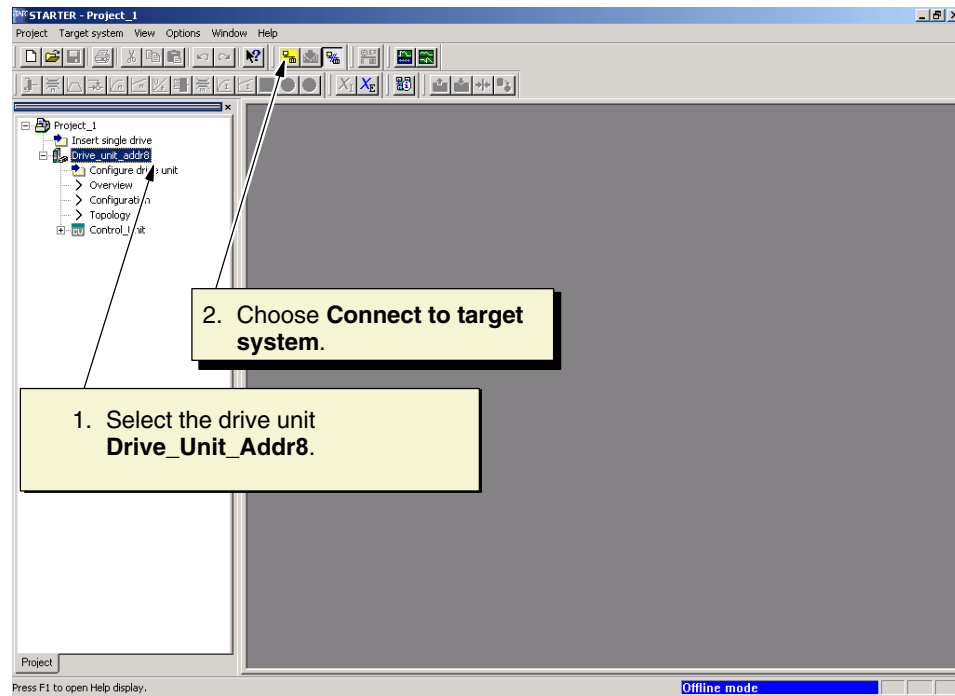

Fig. 5-6 Project_1
7. Choose **Complete**. The new project and drive unit are displayed in STARTER (see Fig. 5-6).